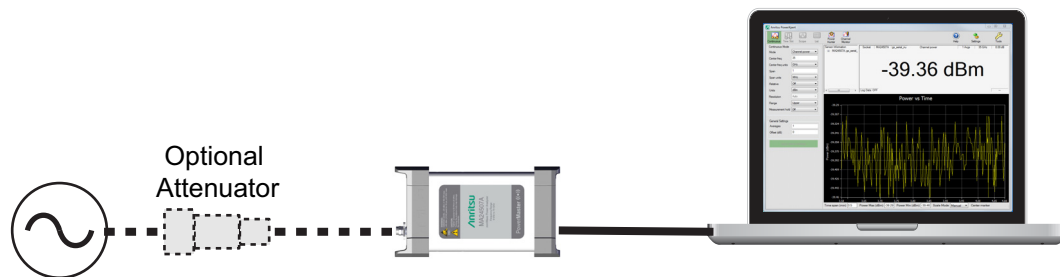

Figure 8-3. Measurement Setup
1. Connect the sensor to a computer as shown in Figure 8-3.